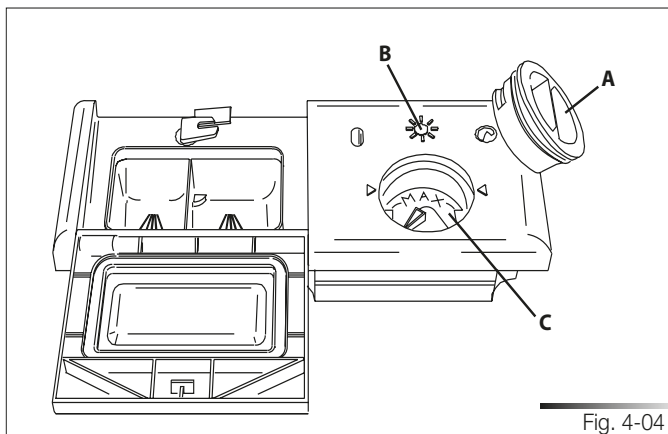

Fig. 4-04
- Rotate the container cover (ref. A fig. 4-04) anticlockwise by  $\frac{1}{4}$  of a turn and remove it.
- Add the rinse aid until the container is full (approximately 140 ml). The optical level indicator (ref. B fig. 4-04), on the side of the cap should be completely obscured. Refill the rinse aid when the optical level indicator becomes clear again, or when the rinse aid warning light illuminates (see "Description of controls" manual).
- Replace the cover (ref. A fig. 4-04) by turning it in a clockwise direction until it is fully closed.
The rinse-aid dispenser can be set to one of 6 different levels. The dishwasher is factory set for medium water hardness (selector set to "3"). To change the setting, turn the dispenser selector (ref. c fig. 4-04) to the desired position: the amount of rinse-aid dispensed is proportional to the position of this selector. Make sure that the minimum amount of rinse-aid (selector turned to "1") is approximately 1 ml and the maximum amount (selector turned to "6") is approximately 6 ml.
- To adjust the rinse aid setting, rotate the dispenser cover (ref. A fig. 4-04) through a quarter turn in an anticlockwise direction and remove it.